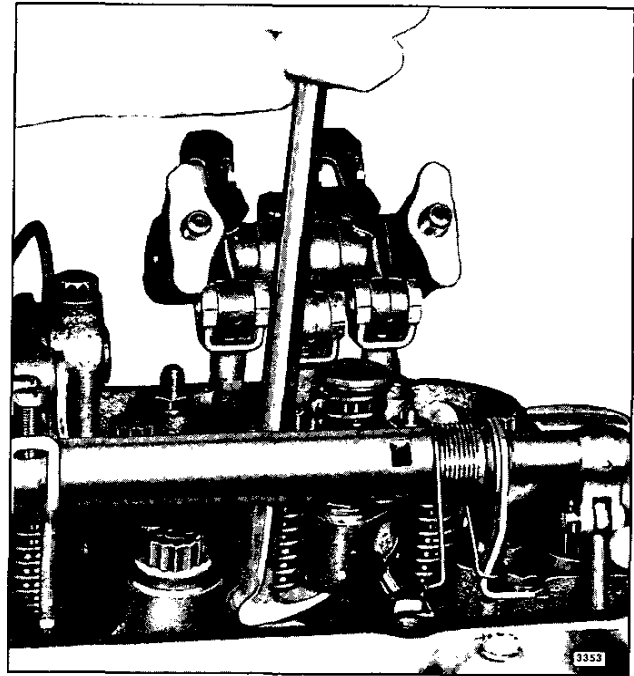

Fig. 7 – Removing Injector from Cylinder Head
4. Remove the two rocker shaft bracket bolts and swing the rocker arms away from the injector and valves (Fig. 7).
7. Lift the injector from its seat in the cylinder head (Fig. 7).